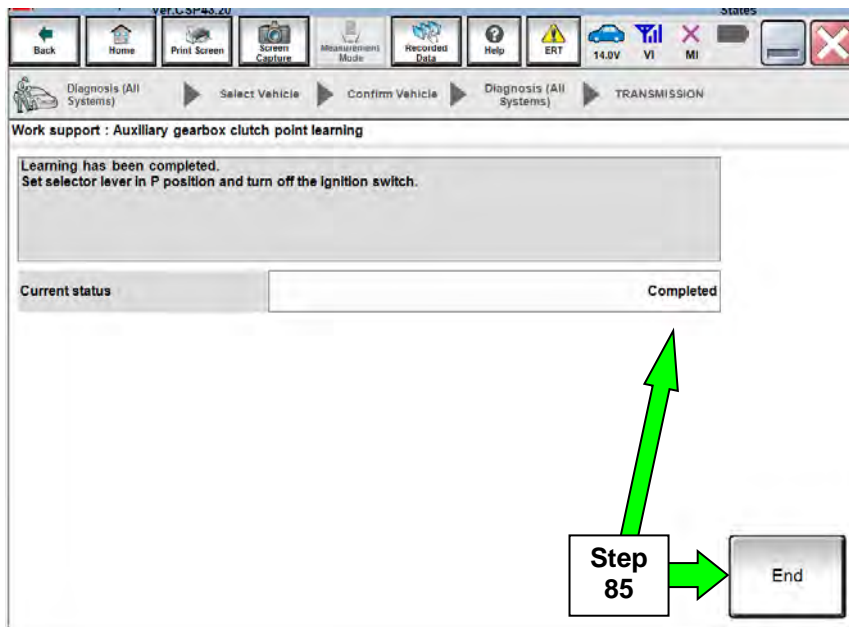

Figure 45
84. Continue to depress the brake pedal until the **Current status** shows “Completed” as shown in Figure 45 on the next page.